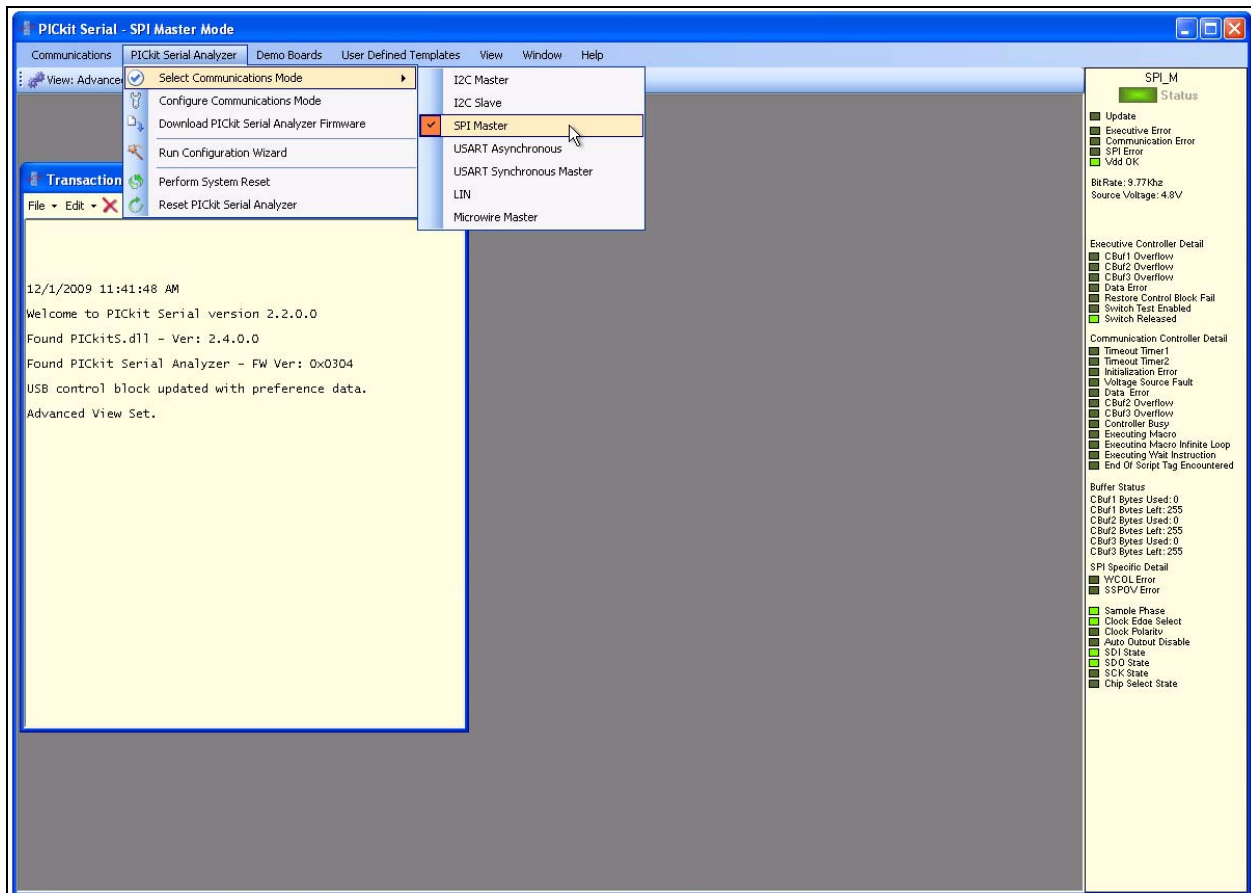

FIGURE 2-5: *PICkit Serial Selecting Communications Mode.*
We need to select the PICkit Serial Analyzer GUI to be in SPI Master mode. Figure 2-5 shows how to select the proper mode. Select *PICkit Serial Analyzer* -> *Select Communications Mode* -> *SPI Master* menu item (make sure the SPI Master item is checked).
5. Ensure the GUI is in Master SPI communication mode (see Figure 2-5).